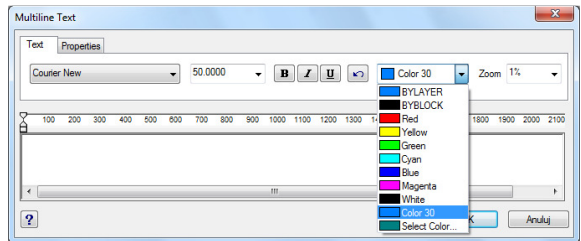

Fig. 53 - Multiline Text dialog box
- The **Multiline Text** dialog will display (Fig. 53);